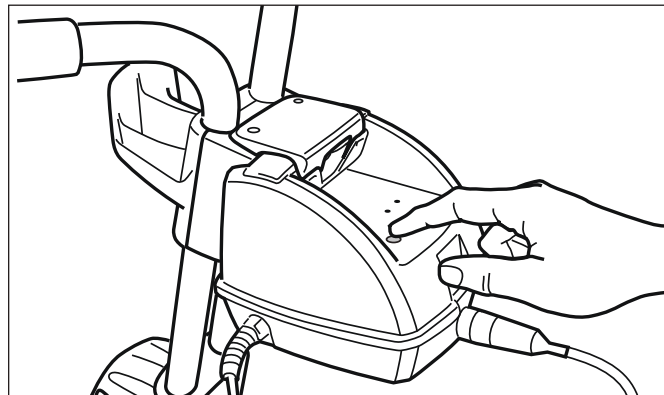

Figure 20. Turn Cleaner Off
4. If you wish to stop the cleaner during a cleaning cycle, press the OFF button. Refer to Figure 20.